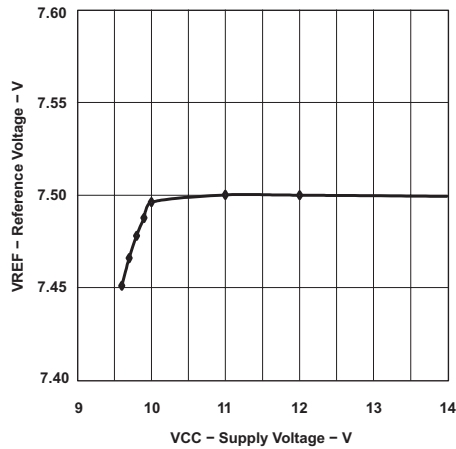

Figure 1. Reference Voltage vs Supply Voltage
(1) Ensured by design, not production tested.
(2) Reference variation for $V_{\text{CC}} < V$ is shown in Figure 1.